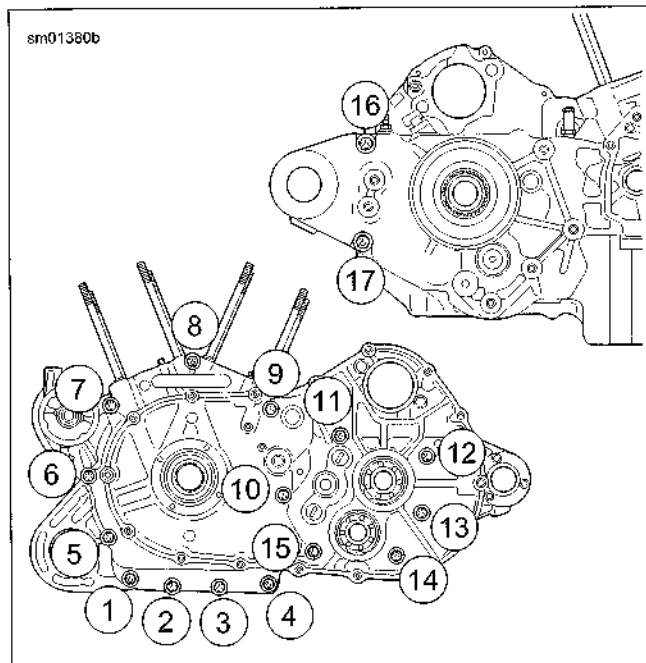

Figure 3-116. Crankcase Fastener Torque Sequence
- f. See Figure 3-116. Install four short fasteners in right case bottom locations (1, 2, 3, 4).
- i. See Figure 3-116. Tighten fasteners to 15-19 ft-lbs (20.3-25.8 Nm) in sequence shown.